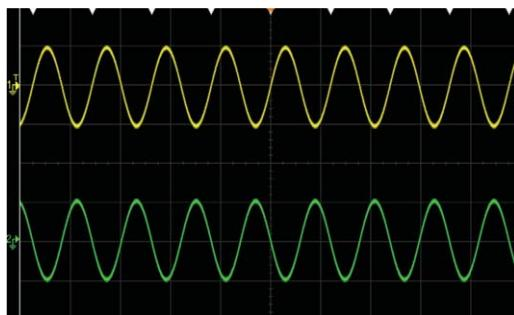

Figure 4. Tracked waveforms that are inverses of each other
- Inverted – the two channels are inverses of each other (Figure 4)